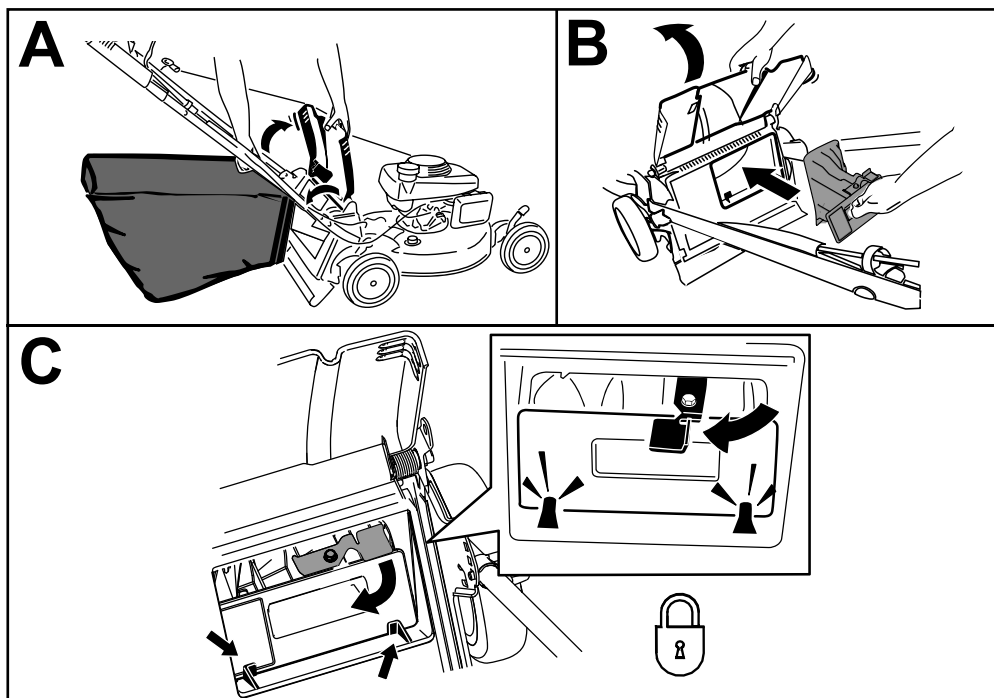

Figure 17
1. Raise and hold up the rear deflector and lift the grass bag up by the handle off the notches of the handle brackets (A of Figure 17).
2. Install the rear plug (B of Figure 17).
Important: Ensure that the rear plug is locked in place. To lock the plug, firmly push the plug in until it snaps into place behind the tabs, and rotate the lever on the plug to the left (C of Figure 17).